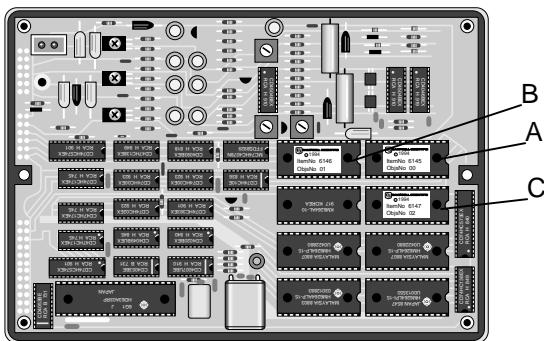

FIGURE I-4. Inside the Faceplate
10. See Figure I-4 and the table below to determine the PROM(s) you want to replace. The installed PROMs all have a notch on the right side. The replacement PROMs must also be installed with the notch on the right.